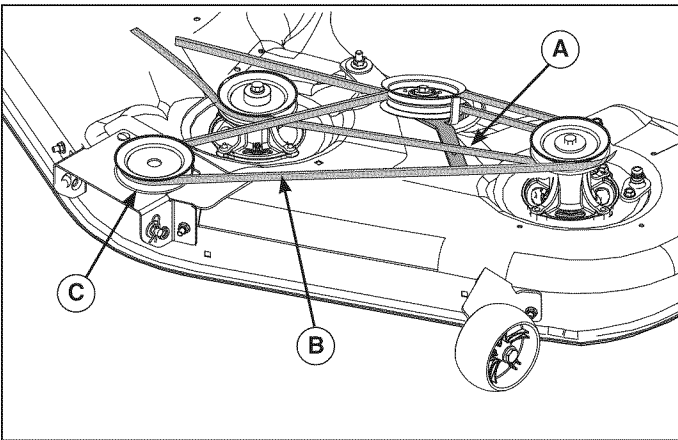

Figure 18
5. Pull the idler pulley lever (A, Figure 18) to release belt tension. Remove belt (B) from PTO pulley (C).
6. Pull the idler pulley lever (**A**, Figure 18) to release belt tension. Install belt (**B**) on the PTO pulley (**C**).